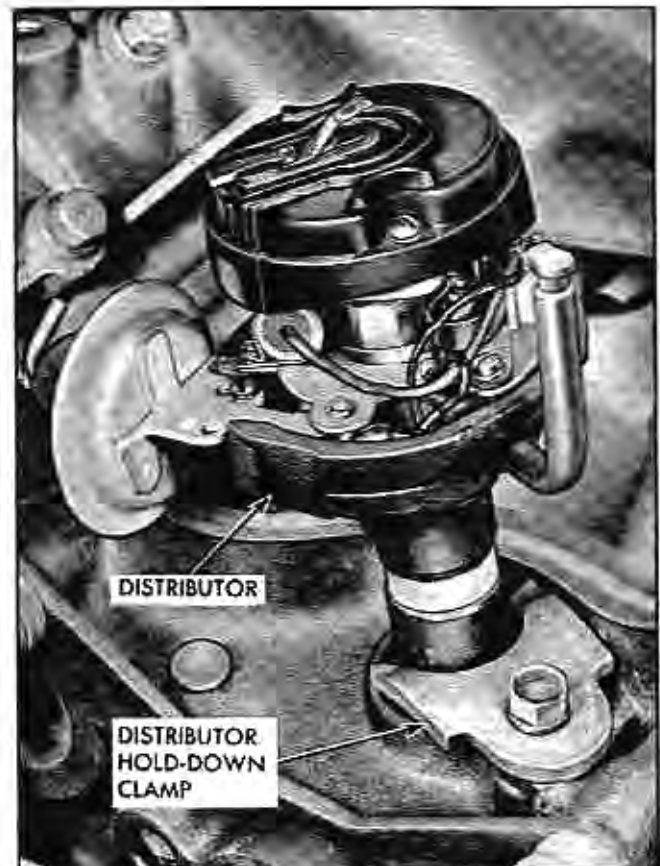

Fig. 6-88 Distributor Properly Installed
c. Install distributor (without cap and wires) so that vacuum diaphragm faces the left side of the engine and rotor arm points toward contact in cap for number one cylinder. It will also be necessary to turn the oil pump drive shaft, using a screwdriver, so it will index with distributor shaft. Distributor and rotor will be positioned as shown in Fig. 6-88 when properly installed with number one piston in firing position.